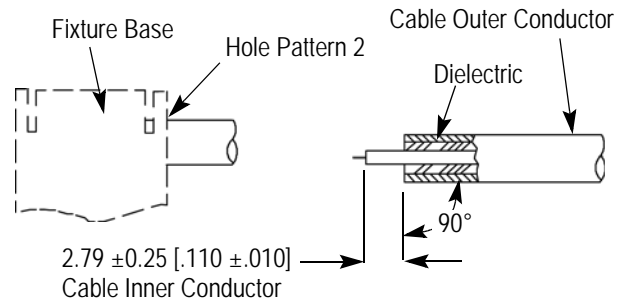

Figure 2
2. Remove the cable from the fixture base, and continue cutting the dielectric with a cutting blade. Remove the cut outer conductor and dielectric from the cable to expose the inner conductor. See Figure 2.